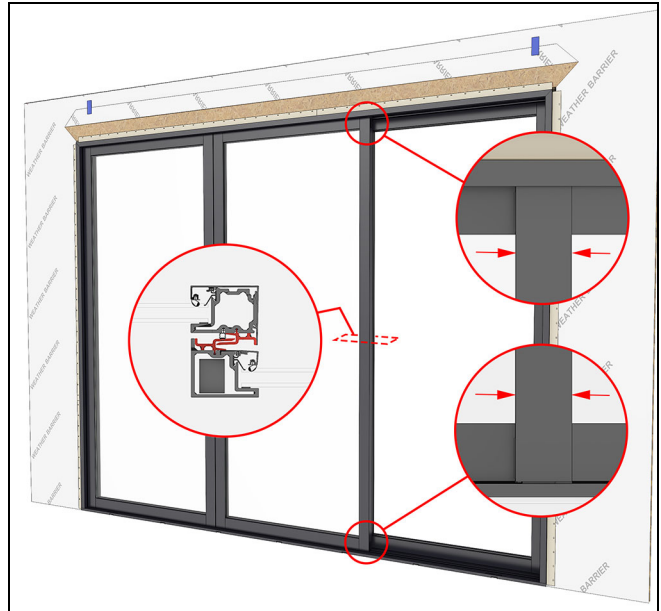

Figure 124
15. Check the operator panel for an even reveal. Adjust panel rollers as needed for proper lock engagement and reveal. See Figure 124.